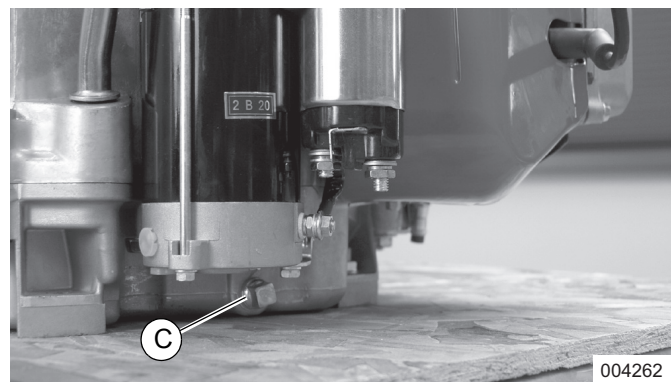

Figure 3-5. Oil Drain
1. See **Figure 3-5**. Remove oil drain plug (C) and drain oil while engine is still warm.